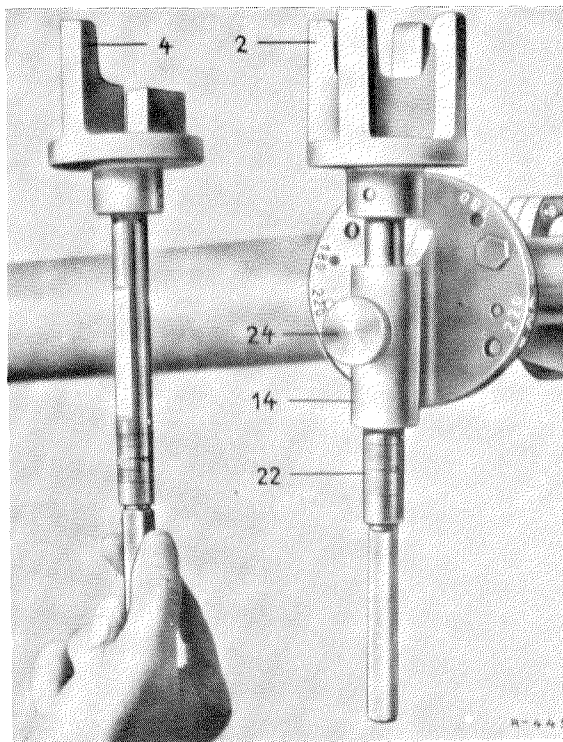

Fig. 61 — 1/5
Tighten the crank handles (16). Take care not to tighten the crank handle (17) too much (see Figs. 61 — 1/7 and 61 — 1/8).
4. Grip the checking devices (4) and (5) at the lower end and push them up in the holders